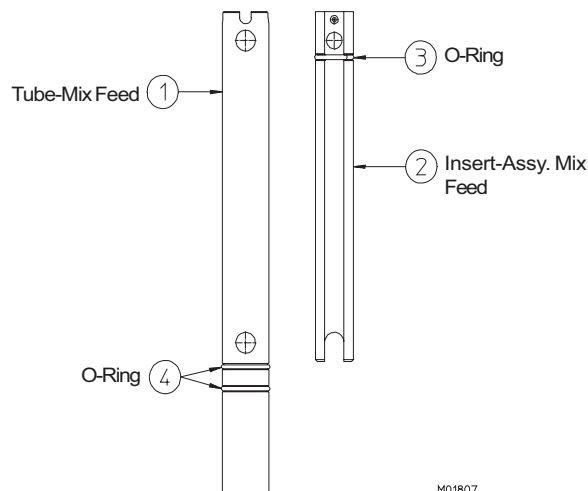

Figure 9-3
2. Remove the mix feed tube from the hopper. (See figure 9-3.